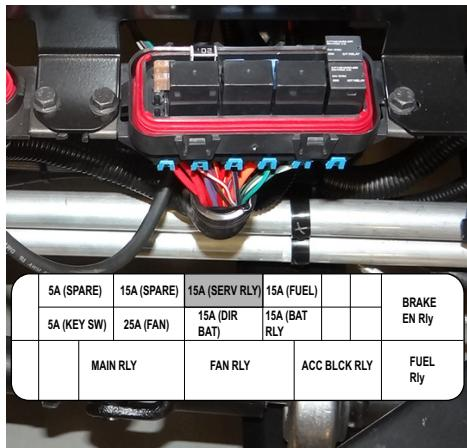

Fig. 5 Service Fuse
- d. Remove the 15Amp service fuse in the main fuse box under the driver seat. Removing this fuse will interrupt the power supply circuit to the ignition coil, injectors and O2 sensor so that the engine will turn over without starting (Ref. Fig. 5).